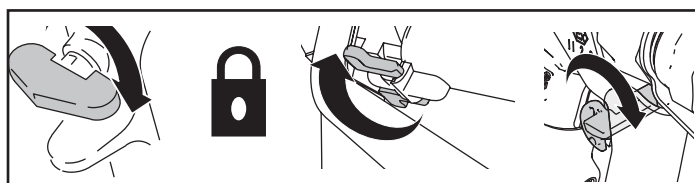

Fig. 10
3. Engage the trigger lock. (Fig. 10)